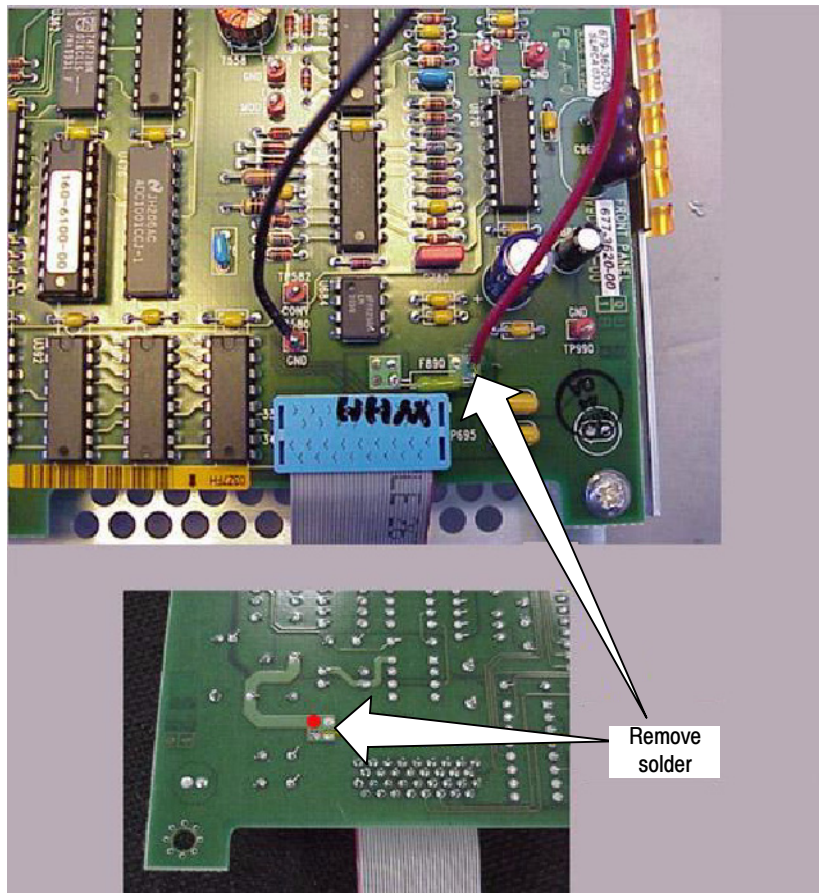

Figure 7: Solder Power cable to Keypad board
- a. Remove the solder from the hole near fuse F890 that is marked +5V and solder the red wire from the new power cable into this hole. See Figure 7.